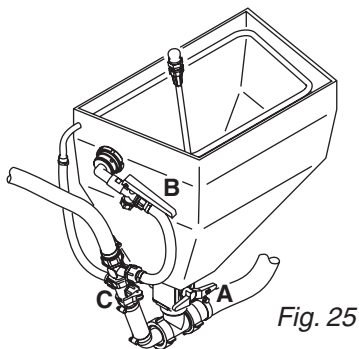

Fig. 25
- 4 Make sure the bottom valve (**A** Fig 25) is closed on the HARDI® CHEMICAL FILLER.
- 8 Open the bottom valve (**A** Fig 25) to transfer the chemical to the main tank.
- 9 If the chemical container is empty, it can be rinsed by using the Bag & Bottle Rinse (optional). Place the container over the multi-hole nozzle and press the lever (**B** Fig 25).
**WARNING!** Do not press lever (**B** Fig 25) unless the multi-hole nozzle is covered by a container to avoid spray liquid hitting the operator.
- 10 Engage the hopper rinsing device by opening valve (**C** Fig 25).
- 12 Close valve (**C** Fig 25) again when the hopper is rinsed.
- 13 Close valve (**A** Fig 25) and the chemical hopper lid. Turn the Select Function handle to SPRAY MAX AGITATION and turn the Variable Agitation handle down to mix the chemicals in the main tank. Leave the Smart Valves in this configuration so the spray liquid is continuously agitated while spraying.